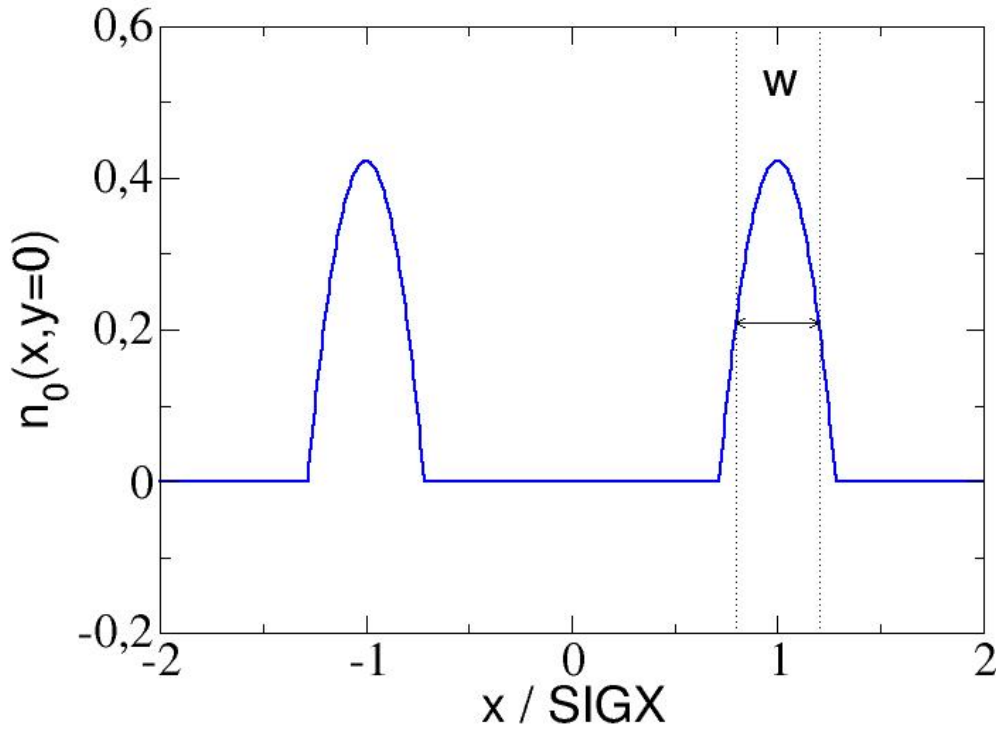

Figure 10.3: Hollow parabolic shape of radial density for beam-beam lens.
- **BBSHAPE=3**: hollow-parabolic shape (see fig.10.3, **SIGX**, **SIGY**: distance from the centre to the maximum of the parabolic density profile in horizontal, vertical directions. Still only circular opposite beam possible,